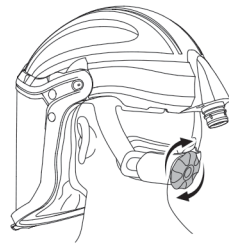

fig.1b
Step 1: Put the face shield on and adjust the face seal, make sure the face seal is fully sealed around the face (See fig.1b).